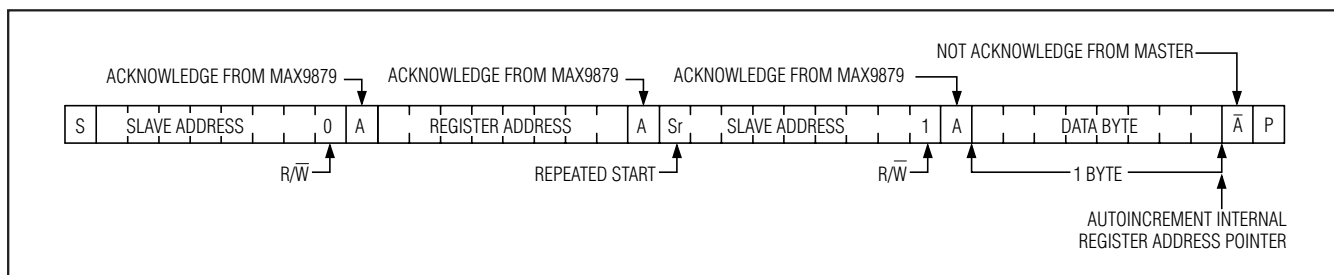
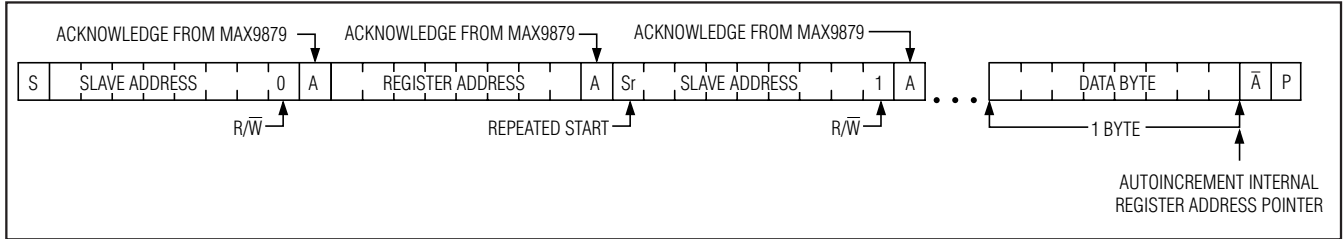

Figure 11. Reading One Indexed Byte of Data from the MAX9879
Figure 12. Reading *n* Bytes of Indexed Data from the MAX9879
The address pointer can be preset to a specific register before a read command is issued. The master presets the address pointer by first sending the MAX9879's slave address with the R/\bar{W} bit set to 0 followed by the register address. A REPEATED START (S_r) condition is then sent followed by the slave address with the R/\bar{W} bit set to 1. The MAX9879 then transmits the contents of the specified register. The address pointer autoincrements after transmitting the first byte. The master acknowledges receipt of each read byte during the acknowledge clock pulse. The master must acknowledge all correctly received bytes except the last byte. The final byte must be followed by a not acknowledge from the master and then a STOP (P) condition. Figure 11 illustrates the frame format for reading one byte from the MAX9879. Figure 12 illustrates the frame format for reading multiple bytes from the MAX9879.